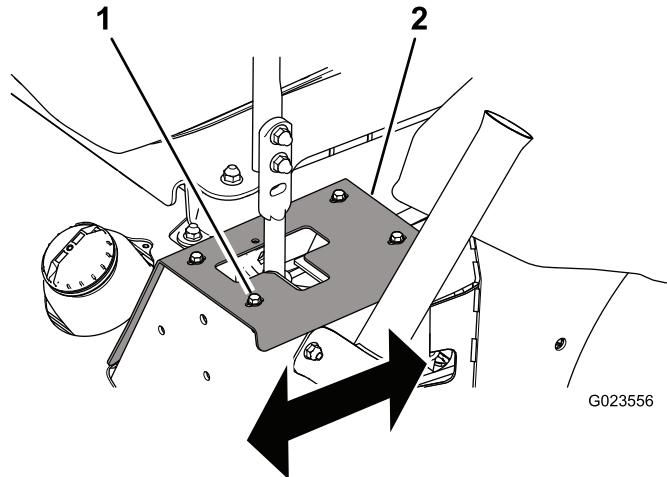

Figure 55
- If it tracks to the right, loosen the bolts and adjust the left stop plate rearward until the machine tracks straight (Figure 55).
- If it tracks to the left, loosen the bolts and adjust the right stop plate rearward until the machine tracks straight (Figure 55).
1. Bolt (4)
3. Tighten the bolts to secure the stop plate (Figure 55).